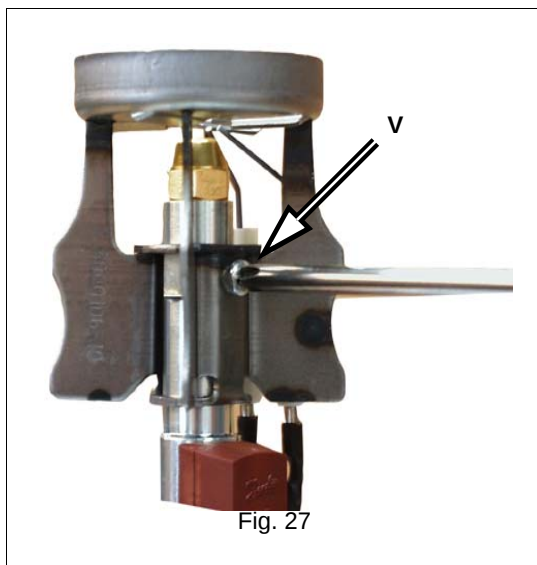
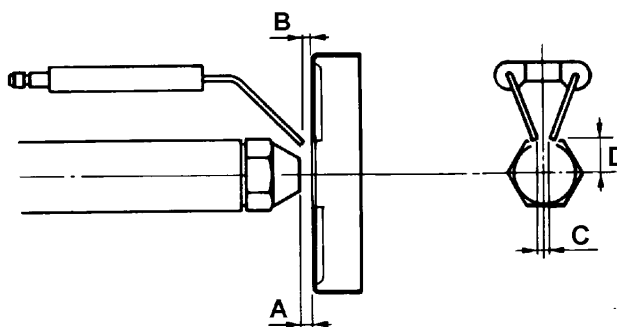

Fig. 27
Fig. 29
- disassemble, check and clean of the combustion head. When re-assembling carefully observe the measures quoted in Fig. 29;
Before disassembling the nozzle and the electrodes, disconnect the cables CV (Fig. 27), measure the positions quoted in Fig. 29 and make a note in the table on Tab. 6.
- 7 Unscrew the V screw that fastens the combustion head and remove the head from the nozzle-holder (Fig. 27 - Fig. 25)
⚠ Reassemble the combustion head by respecting the position "A" measured previously, making sure to fasten the V screw (Fig. 27)
Before disassembling the nozzle, measure the real position "A" (see Fig. 29) and make a note in the table below.